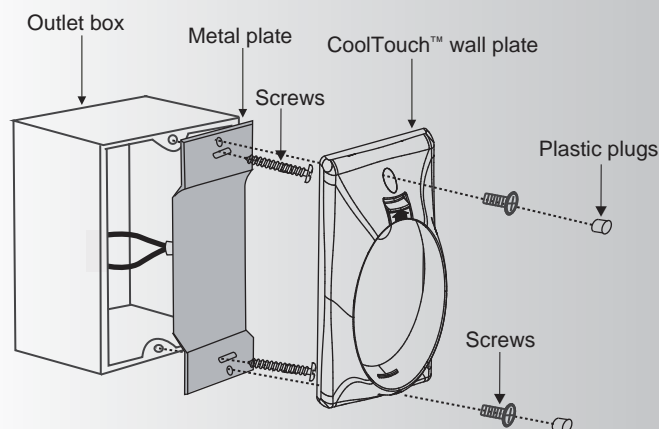

Fig. 22
Step 2. Install the metal plate and CoolTouch™ wall plate to the existing wall outlet box with 4 screws provided. Then place the two plastic plugs into the wall plate. (Fig. 22)